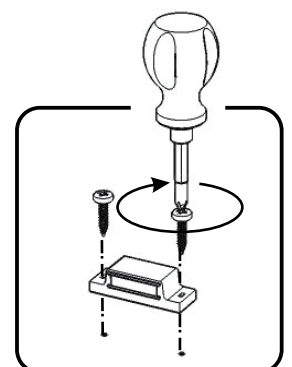

Figure 5
Attach Magnets to Front Rail (W) by inserting Wood Screws for Magnet into pre-drilled holes, then tighten. (See Figure 5)